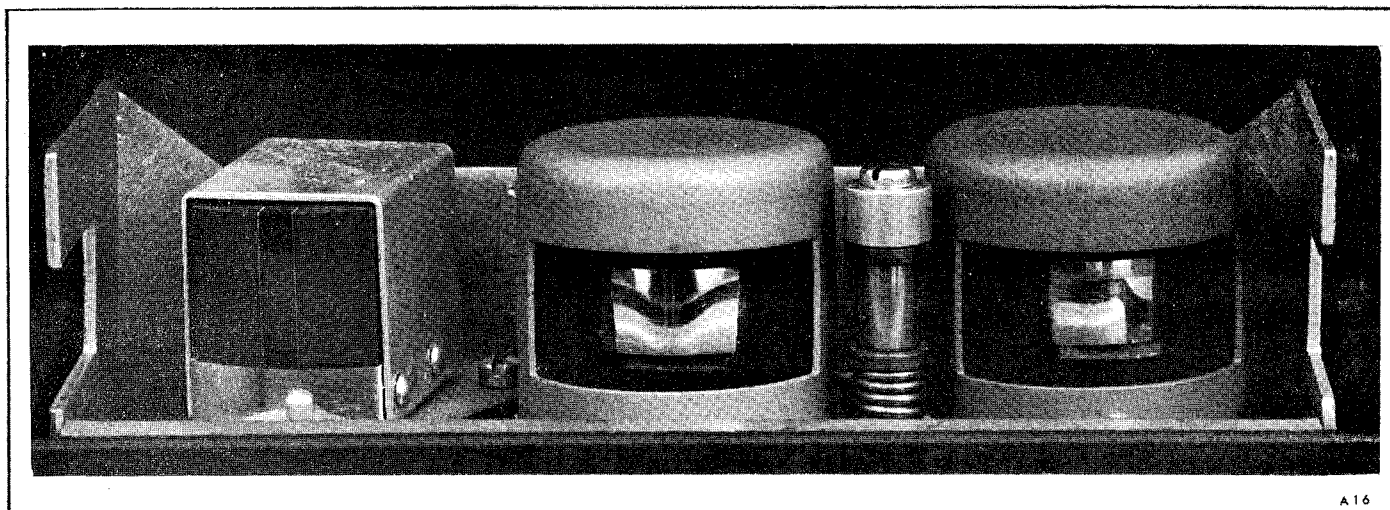

Figure 1-4. Typical Head Assembly
1.14 HEAD ASSEMBLIES (Figure 1-4)